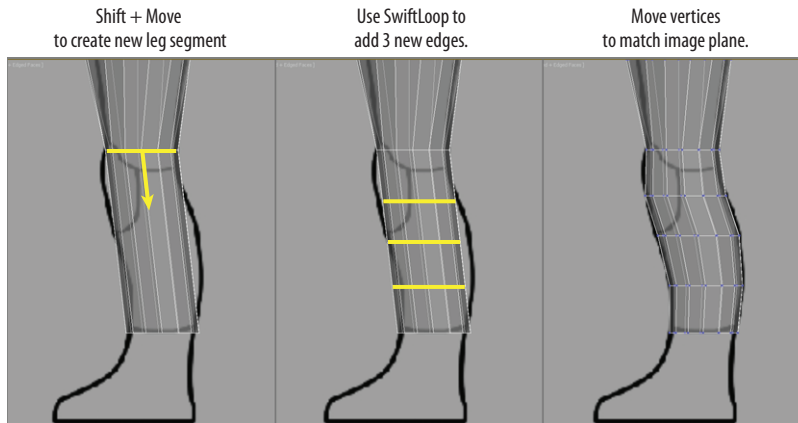

FIGURE 7.28 Extrude down to the ankle (left), use the SwiftLoop tool to create three new loops (middle), and fit the new edges to the image plane (right).
17. Then use the Extrude Border method (Shift+Move) to extrude the leg down to the ankle, as shown in Figure 7.28 (left).
18. In the Graphite Modeling Tools tab > Edit panel, click SwiftLoop, and create three new horizontal segments around the leg, as shown in Figure 7.28 (middle).
19. Then fit the vertices to the shape of the soldier's leg in the side image plane in the Right viewport, as shown in Figure 7.28 (right).